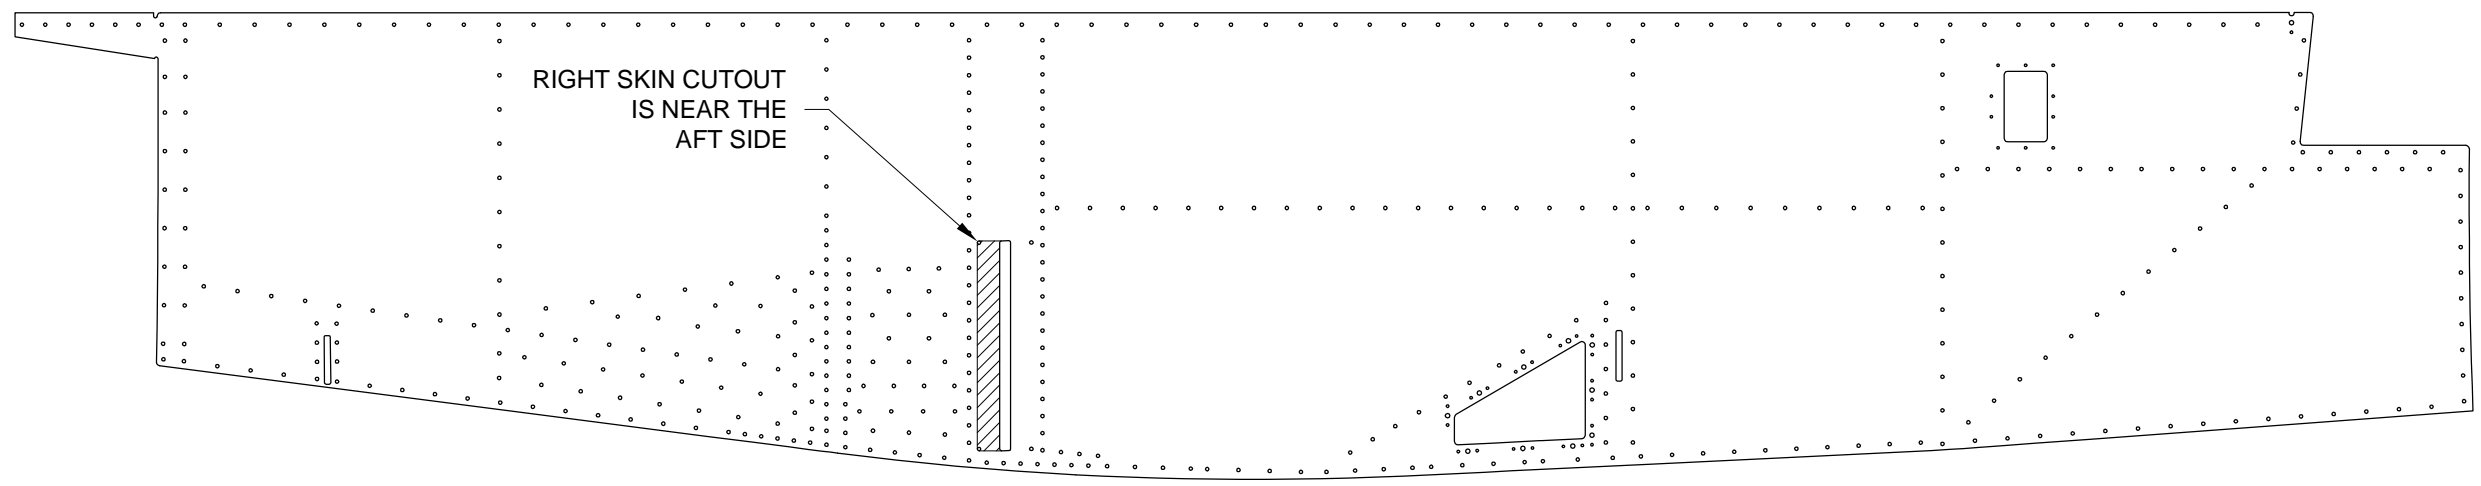

FIGURE 2: MAKING THE RIGHT SKIN SPAR CUTOUT
Step 4: Machine Countersink 120° hole locations in F-1270D Side Skin Doublers that use flush rivets (one for left and one for right installation). See Page 23-09 Figure 2 for locations.